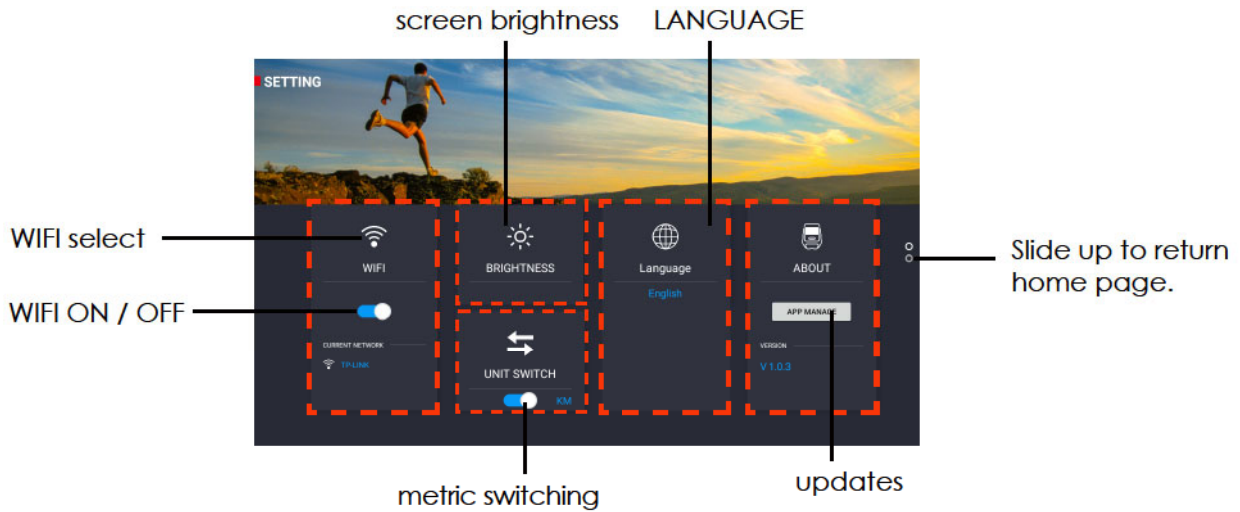

Fig.6 SETTING MODE
AT Home page, slide down the screen, You can enter the SETTING MODE. Please check Figure 6.
1. Turn on the Wifi, then press the Wifi icon. (Fig.6)
3. After connection, press the exit function at the left bottom corner of the screen. Check the WiFi name to make sure that it is the one you would like to connect to. Fig.6)
1. Press the  (Fig.6 & Fig.9a)
Choose the unit, KM or ML, you want to display. (Fig.6)
1. Press the APP MANAGE Button (Fig.6)